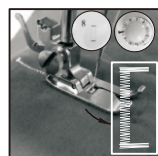

Fig.19
- (4) Choose the stitch pattern #8, then turn on switch and sew 5-6 stitch in low speed, then turn off switch (Fig.19).